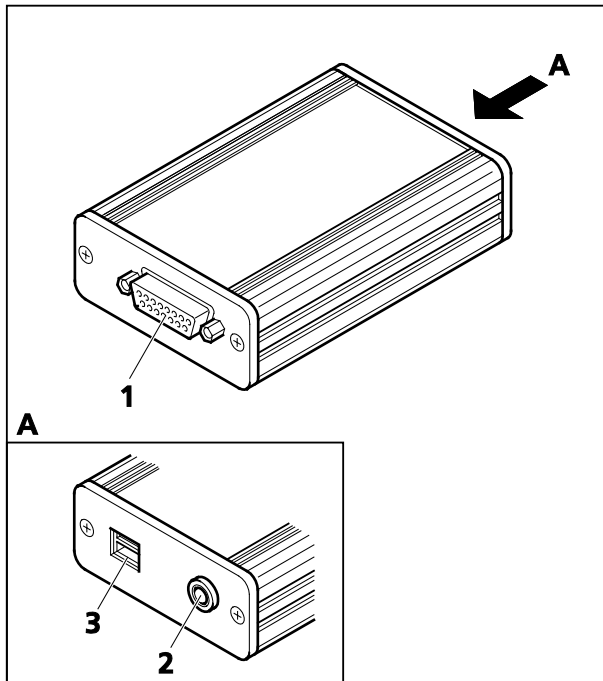

Fig. 73 CAN/USB converter
- Use the CAN bus cable to connect the CAN connector of the mechanical stage (Fig. 71/1) to the CAN connector of the CAN / USB converter (Fig. 73/1).
- Use the USB cable to connect the USB port of the PC to the CAN / USB converter (Fig. 73/3).
- Connect the DC voltage input terminal of the CAN / USB converter (Fig. 73/2, 24 V DC / 1.25 A) to the plug-type power supply output (output 24 V DC, 1.25 A). Then plug that power supply into the power outlet.